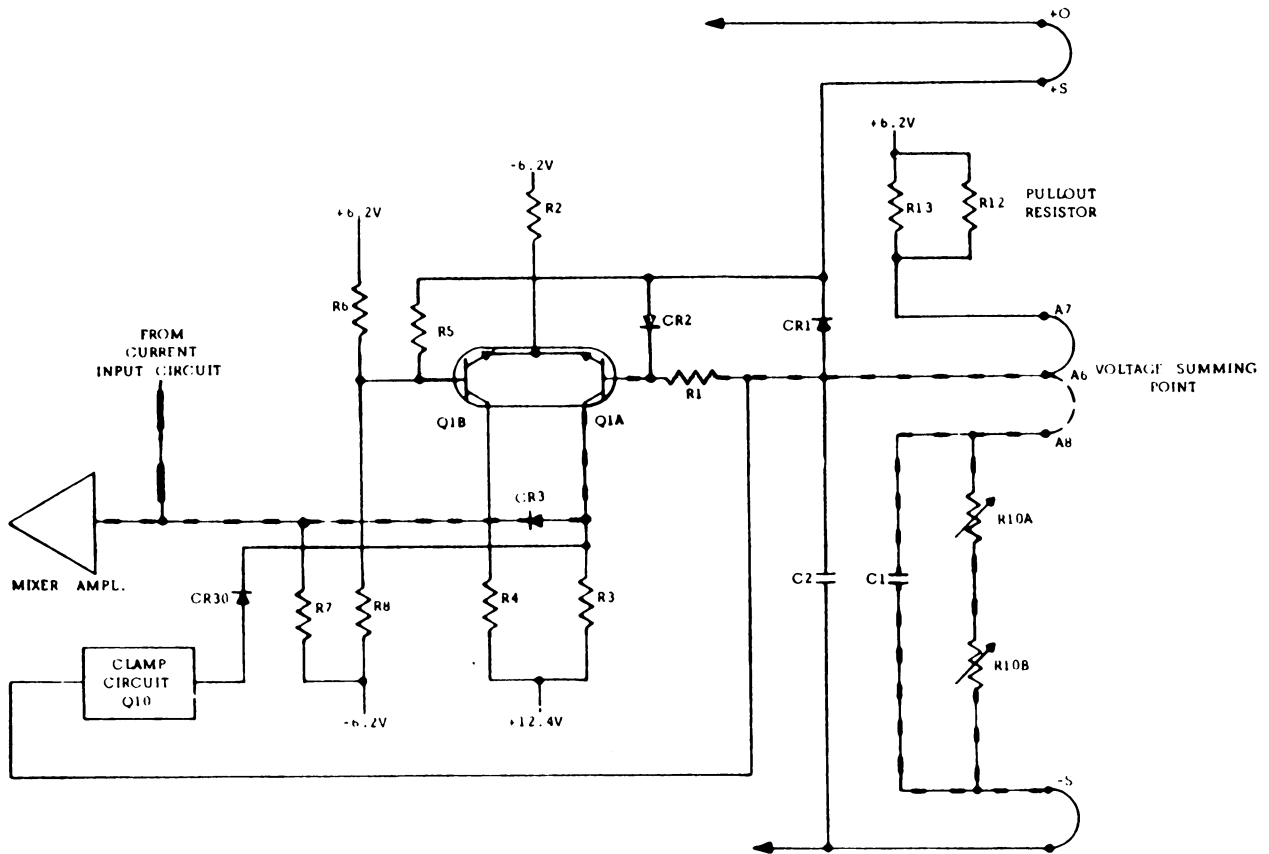

Figure 2-17. Constant voltage input circuit.
**Constant Voltage Input Circuit.** The circuit (fig. 2-17) consists of the coarse and fine programming resistors (R10A and R10B), and a differential amplifier stage (Q1 and associated components). Transistor Q1 consists of two silicon transistors housed in a single package. The transistors have matched characteristics minimizing differential voltages due to mismatched stages. Moreover, drift due to thermal differentials is minimized since both transistors operate at essentially the same temperature.
Refer to figure 2-17 as necessary to answer the following questions.